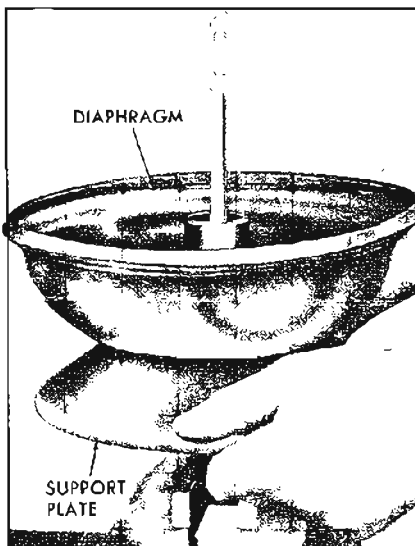

Figure 9-24—Positioning Power Piston on Support Plate Remover
4. Pull the diaphragm edges away from the support plate, so that the hands can grip on the steel support plate. Position the assembly down on the Power Piston Wrench J-21524 so that the three lugs on the tool fit into the three notches in the power piston. See Figure 9-24.